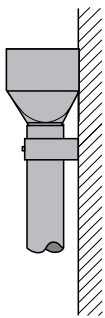

Fig.20a
- Direct push-fit connection at correct distance from wall (*Fig.20a*)